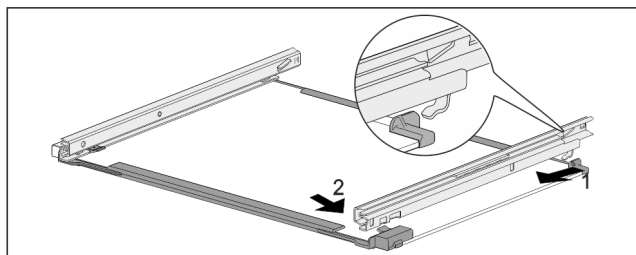

Fig. 175 Glass shelf with rails
- ▶ Hook in rail at the back. Fig. 175 (1)
- ▶ Hook in rail at the front. Fig. 175 (2)